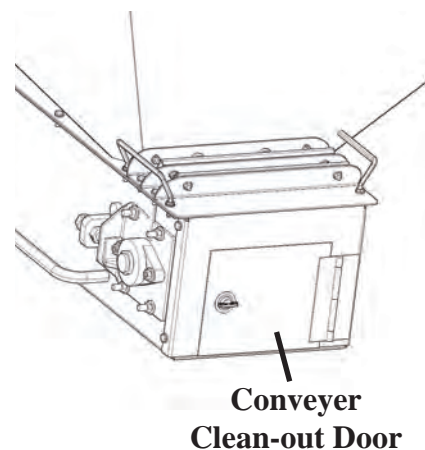

Figure 2.4
1. Open clean out-door located under collapsible hopper (Figure 2.4). This will allow you to see if the belt is centered on the pulley.
7. Open the clean-out door located under collapsible hopper (Figure 2.4). This will allow you to see if the belt is centered on the pulley.